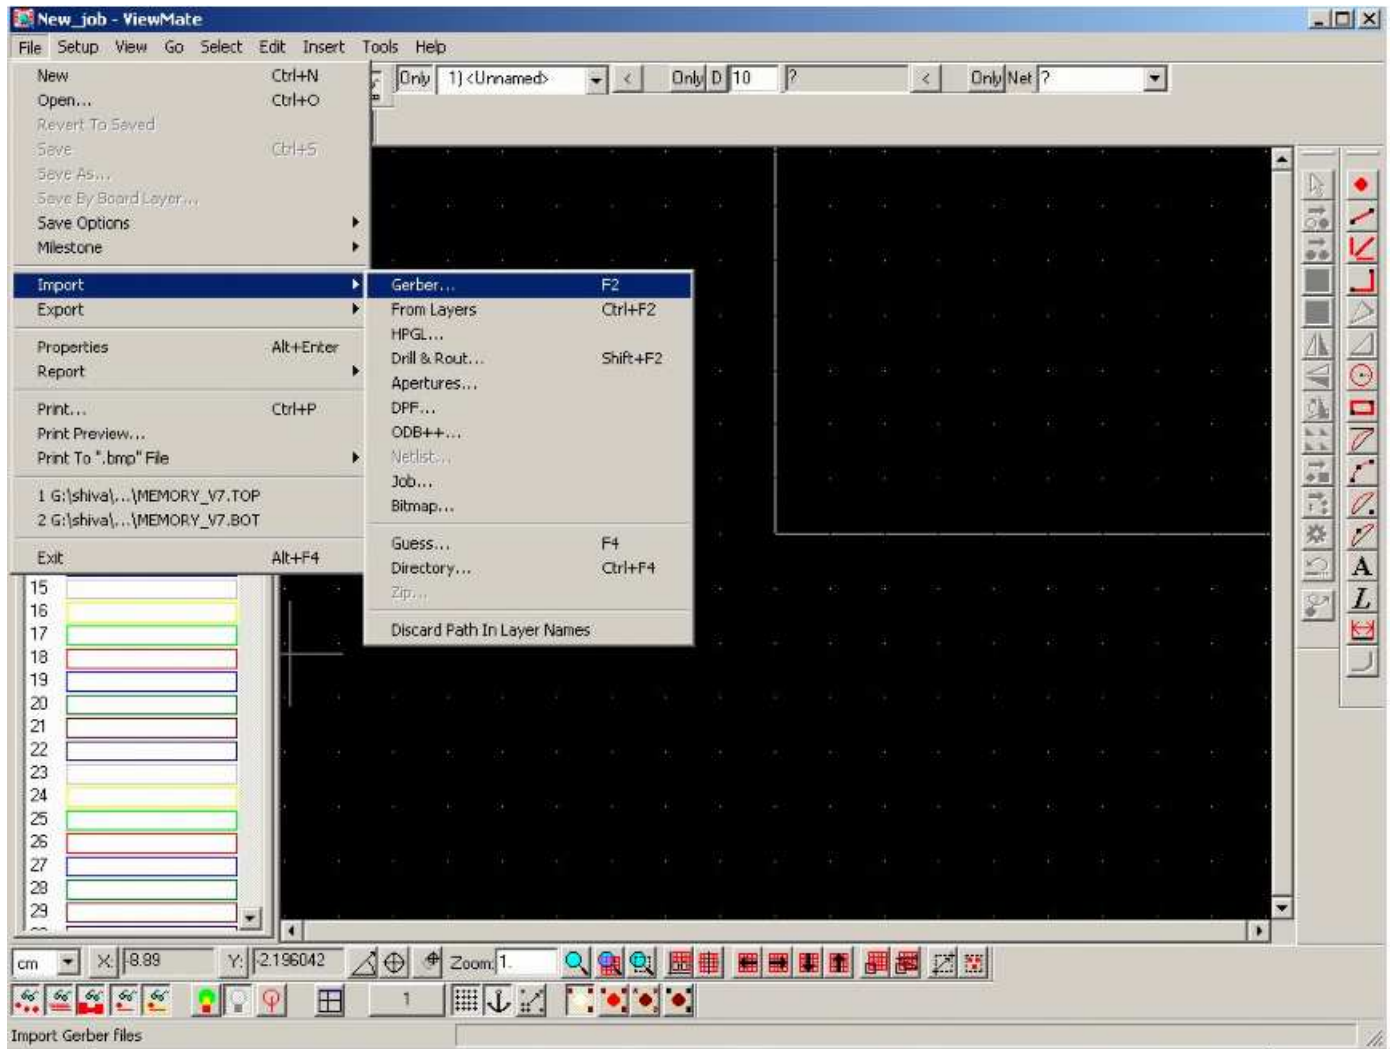

Figure 2: Importing Layout in Viewmate
- Import the layout files. See *Figure 2. 3*